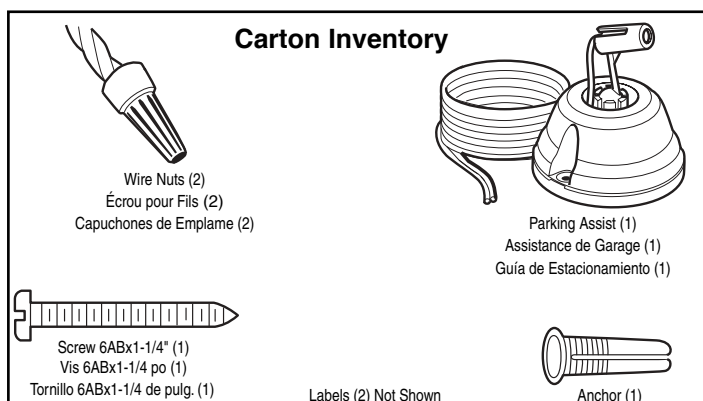

Figure 1
2. Determine the mounting location on or near the ceiling and fasten the parking assist using the screw and anchor provided (Figure 1).